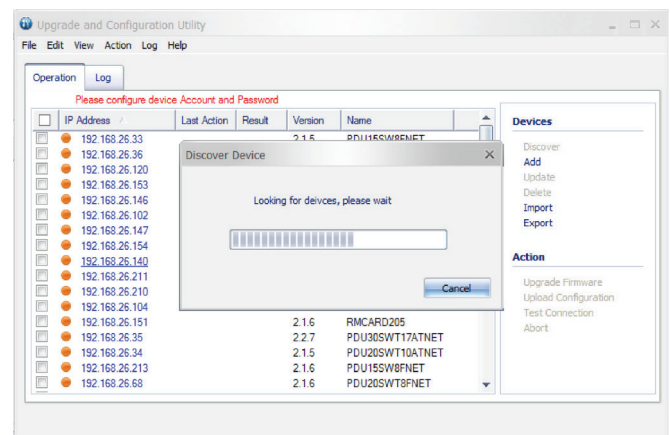

Figure 1
3. Wait for search to finish (Figure 1).